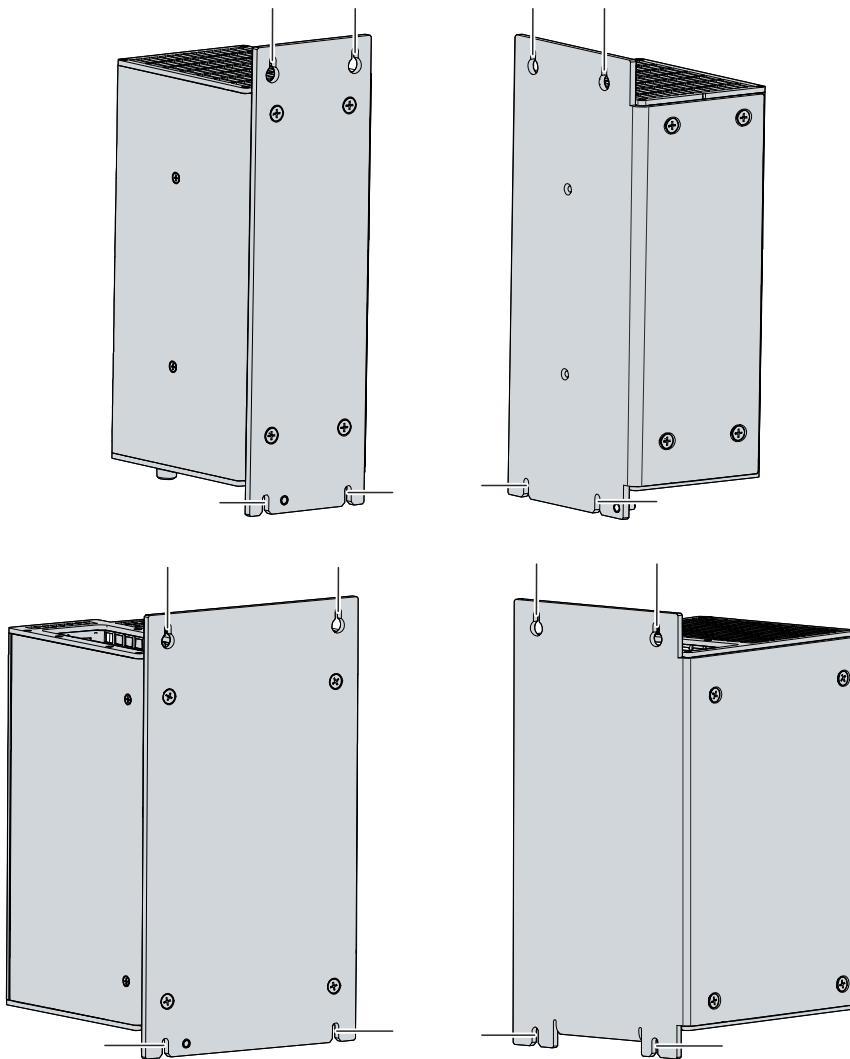

Fig. 22: Dismantling the control cabinet
2. Lift the PC far enough so that the fastening screws slip into the keyholes (see fig. 22).